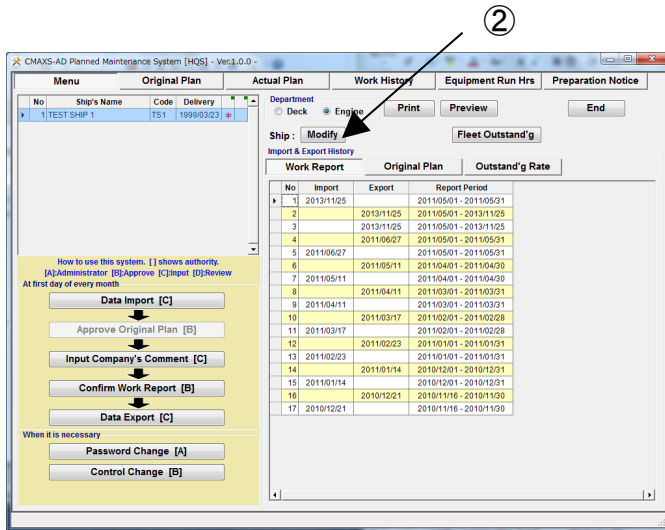

Fig.15-1 Menu Screen
- (1) If you want to modify ship list data, select [Modify] button on the "Menu Screen" (Fig.15-1).
(1) Select [Fleet Outstand'g] button. Each ship's Screen (Fig.15-1) is displayed.